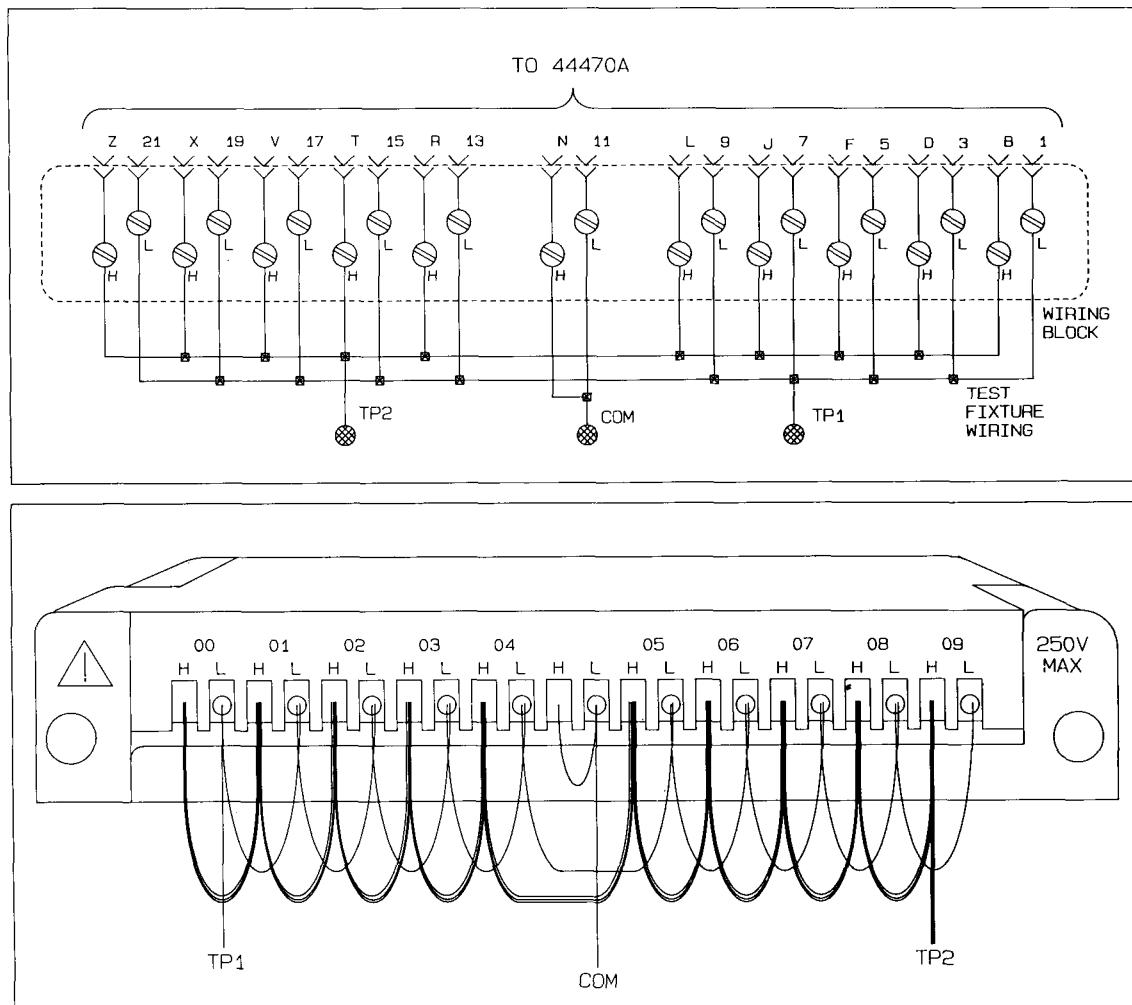

Figure 8-3 44470 Test Fixture
- a. A test fixture is available from Hewlett-Packard (HP part number 03488-66501). The advantages of this fixture are (1) it requires no assembly and (2) it can be used to test the 44470A, the 44471A, the 44473A and the 44474A plug-in cards without modification.
- b. A test fixture can be constructed by configuring an HP 44480A removable wiring block as shown in Figure 8-3. This particular test fixture can only be used to test the 44470A.